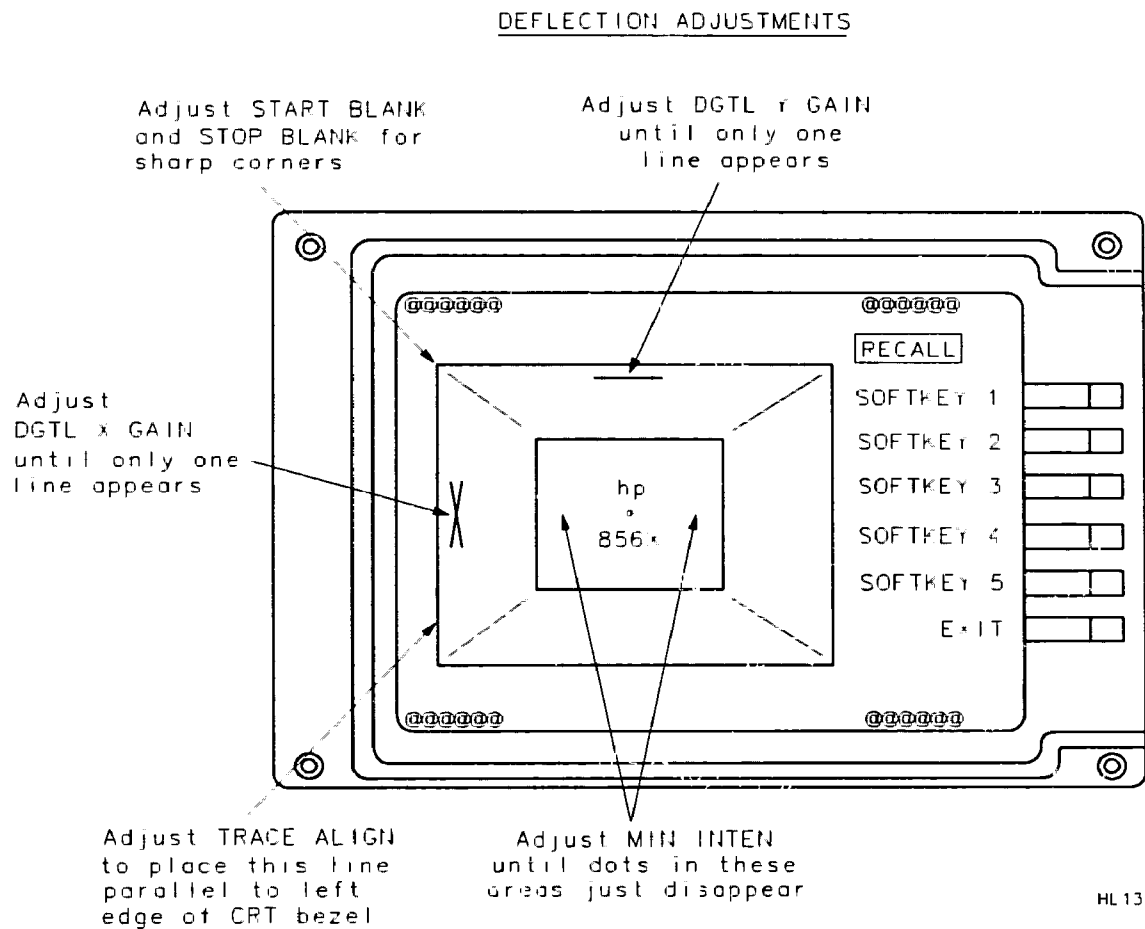

Figure 2-3. CRT Adjust Pattern
8. Refer to Figure 2-3 for locating the lines used for adjusting DGTL X GAIN and DGTL Y GAIN. Each of these lines is actually two lines adjusted for coincidence. The two lines will form an "X" if they are not adjusted properly.
12. Adjust the rear-panel TRACE ALIGN until the leftmost line of the test pattern is parallel with the CRT bezel. See Figure 2-3.